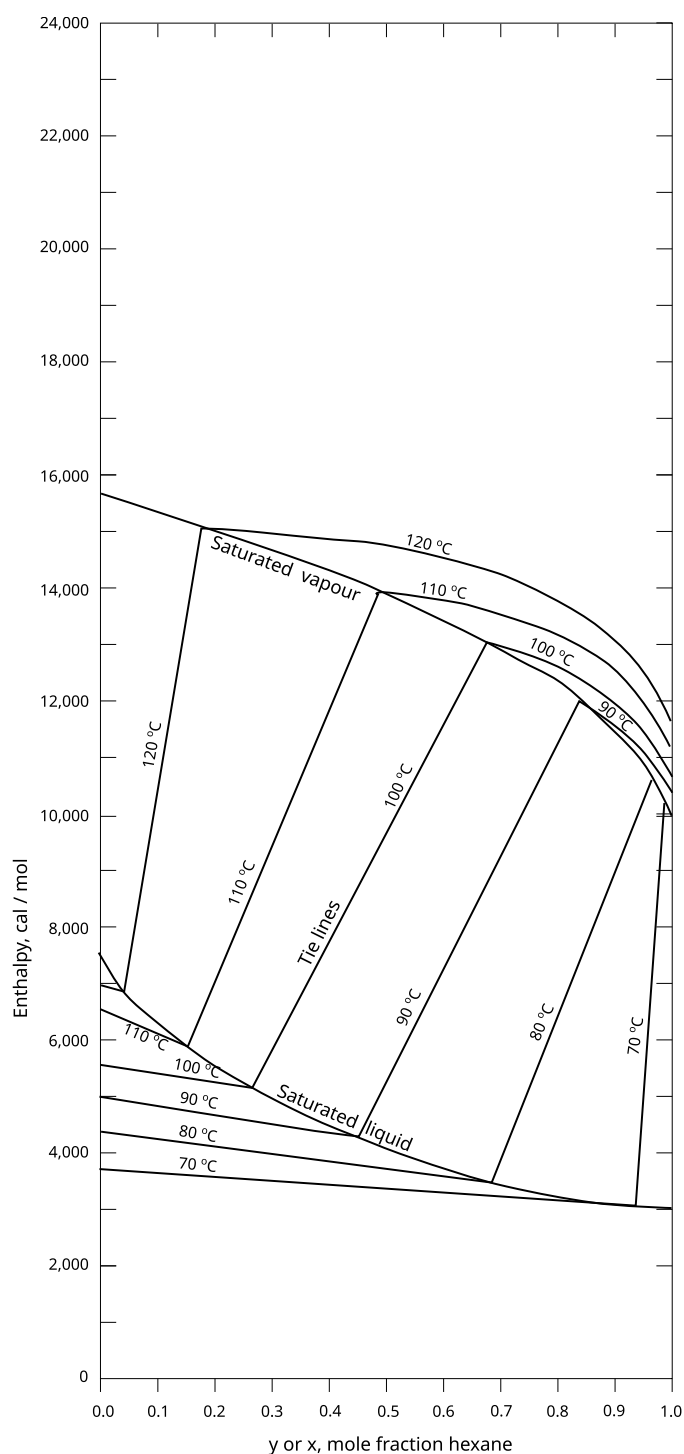

Figure 26: Enthalpy concentration diagram for hexane-octane mixtures at 760 mmHg. For use in Q. 9.40.
- a) A mixture of *n*-hexane and *n*-octane is to be separated by distillation to produce a bottom product containing no more than 3 mol% *n*-hexane and a top product of at least 95% purity of *n*-hexane. An enthalpy-composition chart is given in Fig. 26 which you should use and include in your solution booklet.